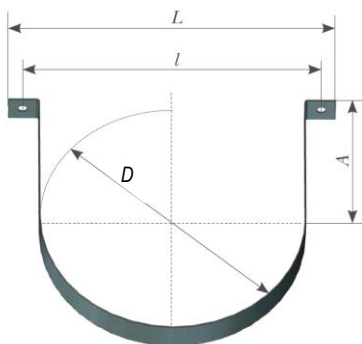

Fig. 34. Fixing clamp of type Xm
CKMМ module wall mounting is designed to fix a module or a group of modules on a wall or other sturdy vertical structure (Fig. 34).
- Xм type fixing clamp (Fig. 34);